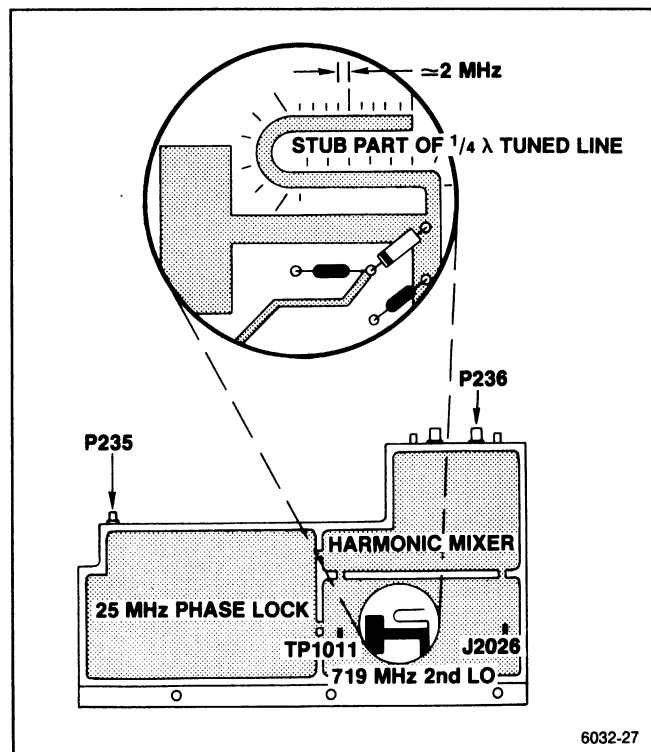

Figure 6-12. 829 MHz LO test points and connectors.
- b. The 2nd LO range is 714.5 MHz to 723.5 MHz (with the cover off). 719 MHz is the optimum center frequency. Frequency of the oscillator is controlled by the Tune Volts from the 25 MHz Phase Lock circuit (located at TP1011) which varies from +5 V (low end) to +11.9 V (high end) with +6.75 V to +7.5 V as the limits for operation at 719 MHz. Set the digital voltmeter to measure 12 V then connect it between TP1011 (Figure 6-12) and ground.
- c. Disconnect the 100 MHz reference from the 3rd Converter by unplugging P235 (Figure 6-12). The oscillator should go to its upper limit and the voltmeter indicate about 11.9 V.
e. Minor adjustments to the oscillator frequency are made by shortening the U-shaped transmission line stub, off the main line. Graduation marks (see Figure 6-12) along the side of the stub provide a guide to calculate frequency correction. Each minor mark from the end or cut across the stub, represents an approximate change of 2 MHz.